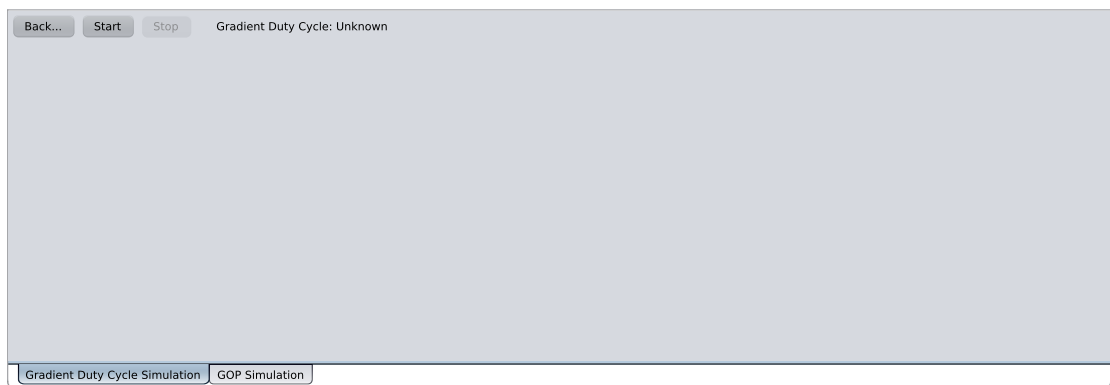

Figure 1.64: Gradient Duty Cycle Simulation
- The Gradient Duty Cycle Simulation tab is selected as shown in [Figure 1.64 \[▶ 79\]](#).